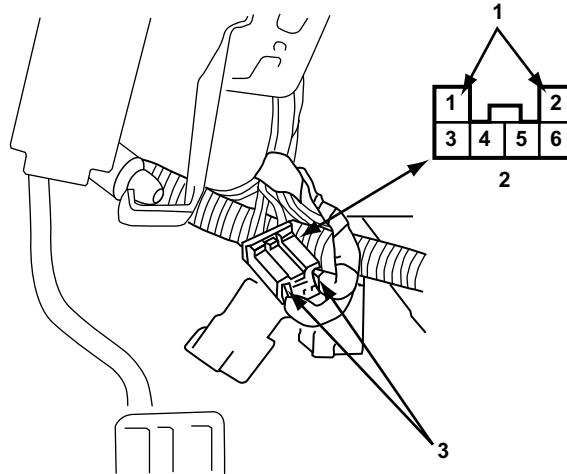

Figure 15-58 2000–04 Legacy and 2003–06 Baja Airbag (SRS) Diagnostic connector
- 2000–2004 Legacy/Outback Sedan and Wagon (Figure 15-58)
- 2003–2006 Baja (Figure 15-58)
1. With the key on and the engine off, install either diagnostic terminal into pin 2 or the airbag (SRS) diagnostic connector. The connector is located in the left lower dash panel area (Figure 15-58).